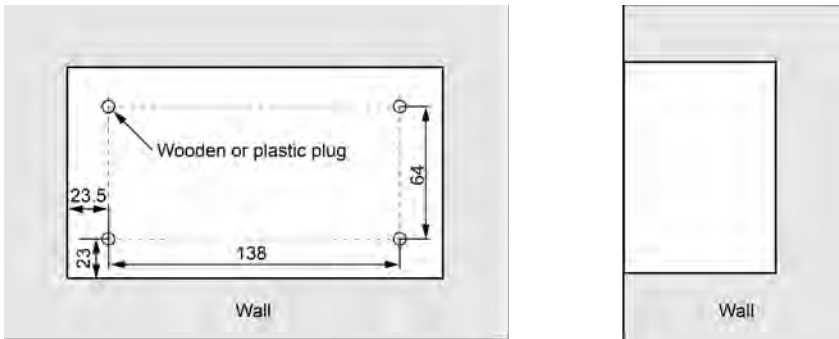

Fig.3.11 Diagram of Wooden or Plastic Plug
- 1) In case that the centralized controller is installed on wall, dig a hole that is the size of 180mm×107mm×62mm and peg 4 wooden or plastic plugs on the wall according to fig.3.11.